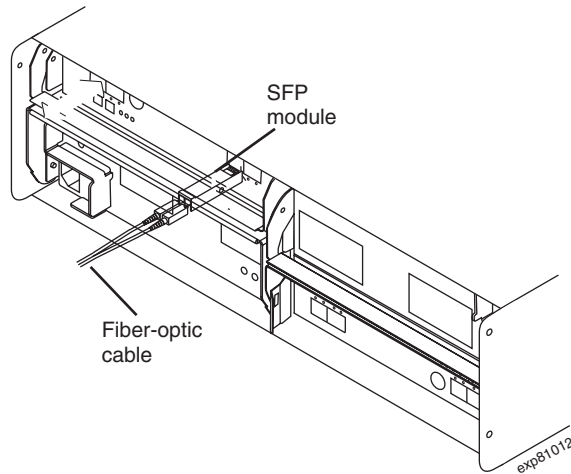

Figure 27. Installing an SFP module and connecting an LC-LC cable to the EXP520
3. Install an SFP module in the SFP port on the back of the EXP520; then, connect the other end of the LC-LC cable into the SFP module, as shown in Figure 27 on page 41.